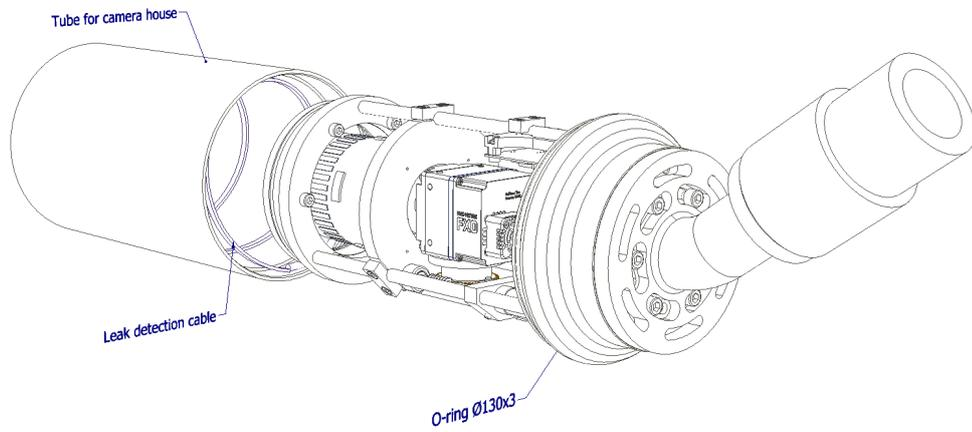

Figure 3 Removal of camera tube
- Extend the Camera Module forward, protruding it beyond rods by A=70 mm (refer to figure 3). Maintain distance below 75 mm at all costs.